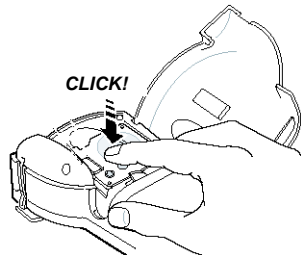

Figure 6
4. Insert the cassette with the tape and ribbon positioned between the print head and pinch roller. See Figure 6.